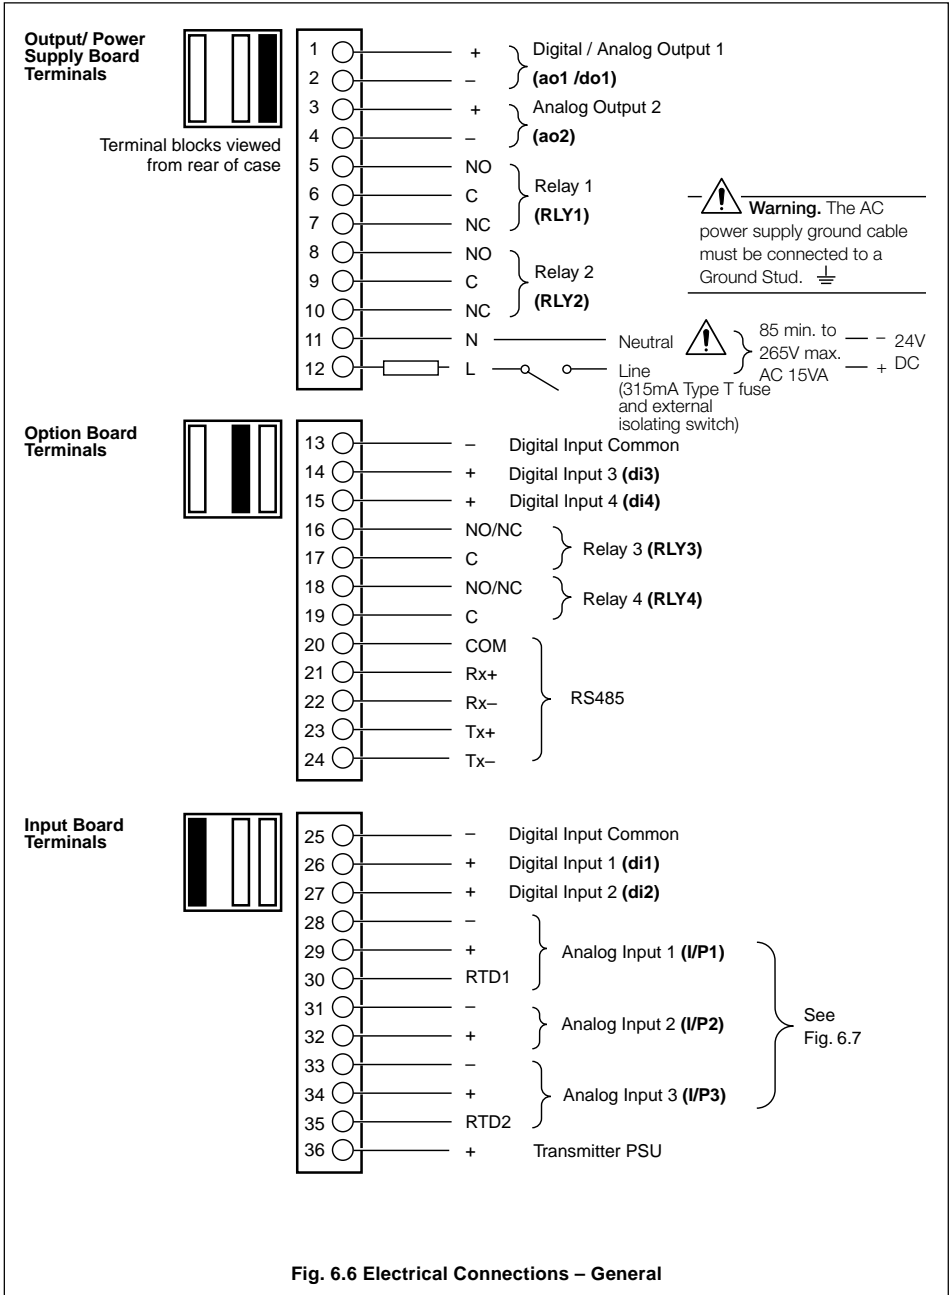

Fig. 6.6 Electrical Connections – General
6.2.1 Electrical Connections – Figs 6.6 to 6.8
...6.2.1 Electrical Connections – Figs. 6.6 to 6.8
Make connections as shown in Fig. 6.6.
- The ground line must be connected to the ground studs on the terminal block – see Fig. 6.6.